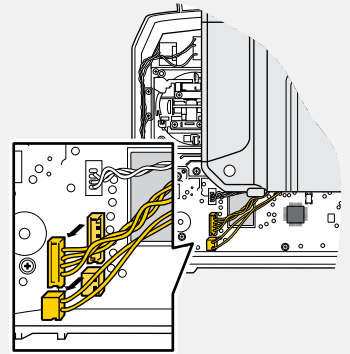

Fig. 13
3. Open the housing. Mind the two cables that connect front and back! Carefully unplug the cables from the PCBA (see [Fig. 13]).